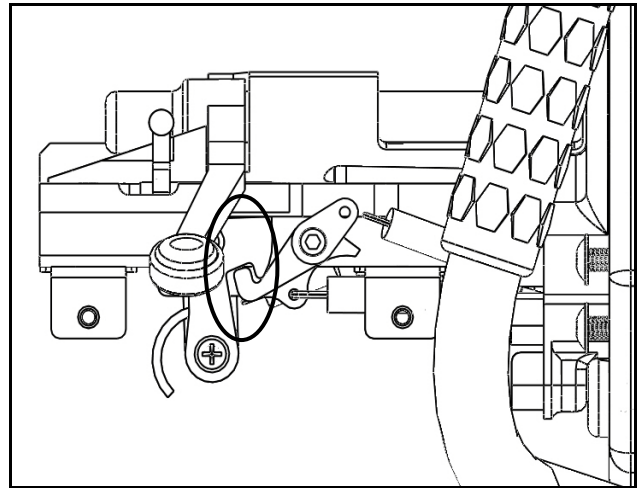

Figure 25 – Safety Catch Engagement
6. Once the Firing Trigger is adjusted properly perform the same procedure on the Secondary Trigger. Begin by ensuring that the Safety Catch is fully engaging into the notch in the Trigger Actuator (see Figure 25).